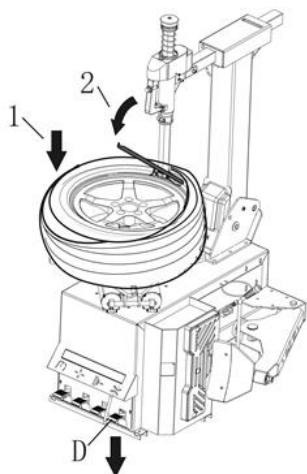

Fig. 17
- With the lever inserted between the bead and the front section of the mounting head, move the tire bead over the mounting head (fig. 17).
- With the lever (fig. 17) held in this position, rotate the turntable in a clockwise direction by pressing pedal D (fig.17) down until the tire is completely separated from the wheel rim.
- Keeping the tire bead pressed down into the wheel rim channel with your hands, press down on the pedal A (fig.17) to rotate the turntable clockwise. Continue until you have covered the entire circumference of the wheel rim (fig.21A).